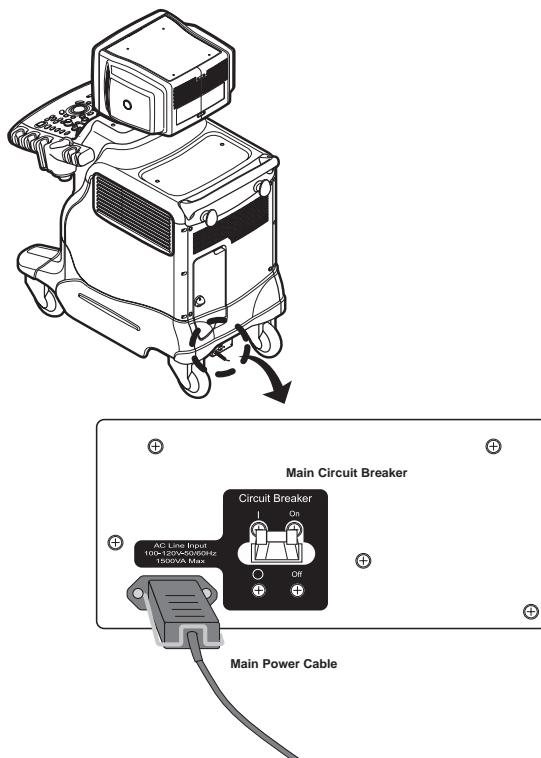

Figure 3-13 Circuit Breaker
- 3.) Switch OFF the Main Circuit Breaker at the rear of the system Refer to Figure 3-13 on page 3-11 .